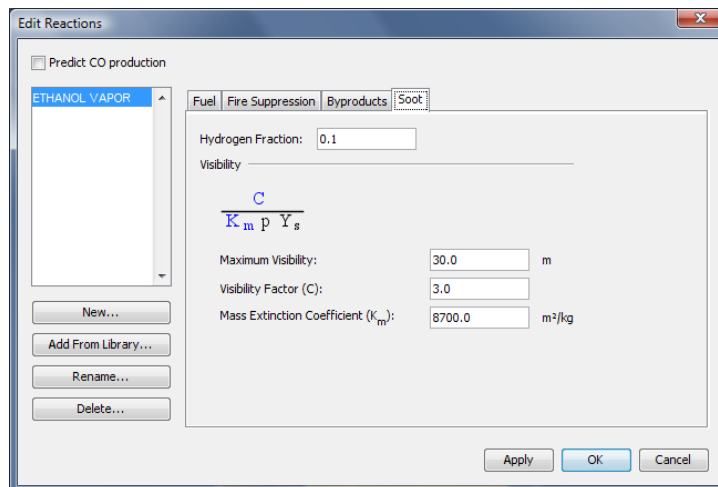

Figure 11.5. Soot panel of the Edit Reactions dialog for an ethanol fire. These are the FDS5 default values.
6. On the **Soot** tab, you can define the fraction of the atoms in the soot that are hydrogen, **Hydrogen Fraction** ( $SOOT\_H\_FRACTION$ ) and the parameters that control visibility. See Chapter 12 of the Fire Dynamics Simulator User's Guide ([McGrattan et al., 2007]). The default values are shown in Figure 11.5